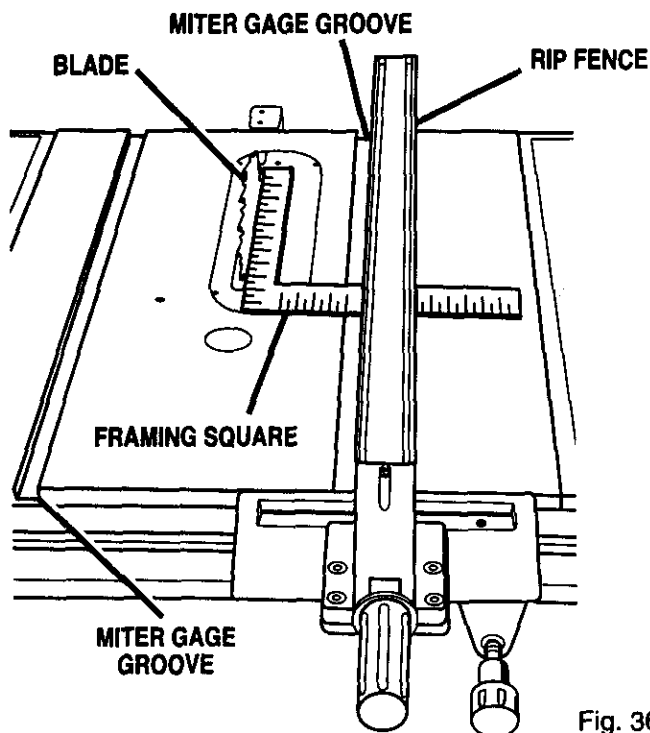

Fig. 36
See Figures 36, 37, and 38.
- Place a framing square against the blade, with the long end under the rip fence at the front. See Figure 36. Note the distance.